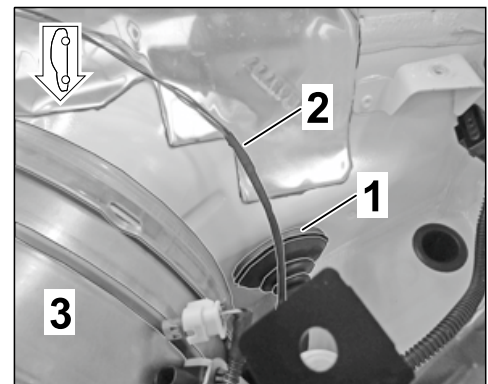

Figure 12
2.3.3 Remove grommet on bulkhead (LHD vehicle: left side ⇒ Figure 12).